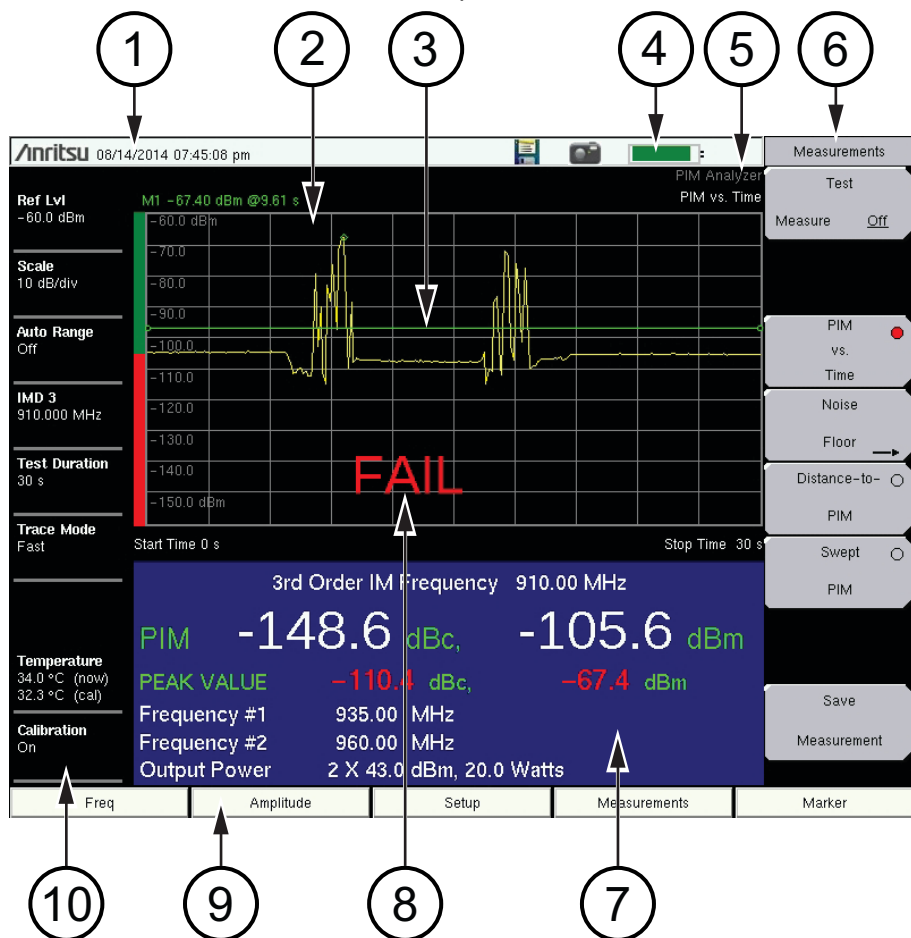

Figure 2-10. Front Panel Layout with PIM vs. Time Display
The eight submenu keys are located to the right of the measurement display. They change function depending upon the current mode and current menu selection. The current submenu title is shown at the top of the active function block (submenu key labels). For an example, refer to item 6 in Figure 2-10 on page 2-15.